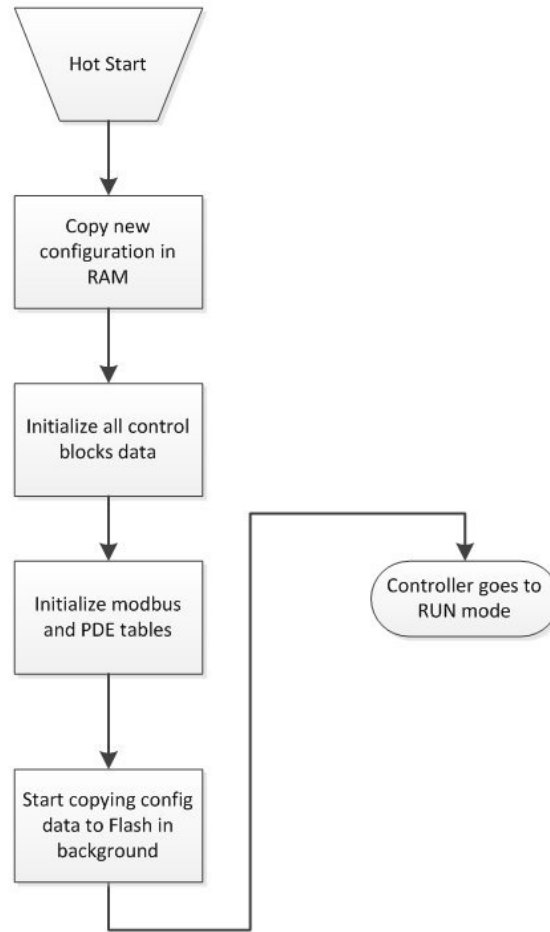

Figure 79 – Warm Start Operation
A Warm Start is a restart of the control strategy using dynamic data that is stored in battery backed RAM to allow control action to resume exactly as it was before the restart. In the Warm Start procedure (flowcharted in the main flow of Figure 79), diagnostic testing proves the integrity of the hardware, software, and configuration database resulting in an automatic Warm Start of process control. Control action is resumed exactly as it was before the outage.
- After a power outage, when diagnostics indicate that the controller hardware and software program are intact, but the content of the RAM database is incorrect. (See Figure 79.)